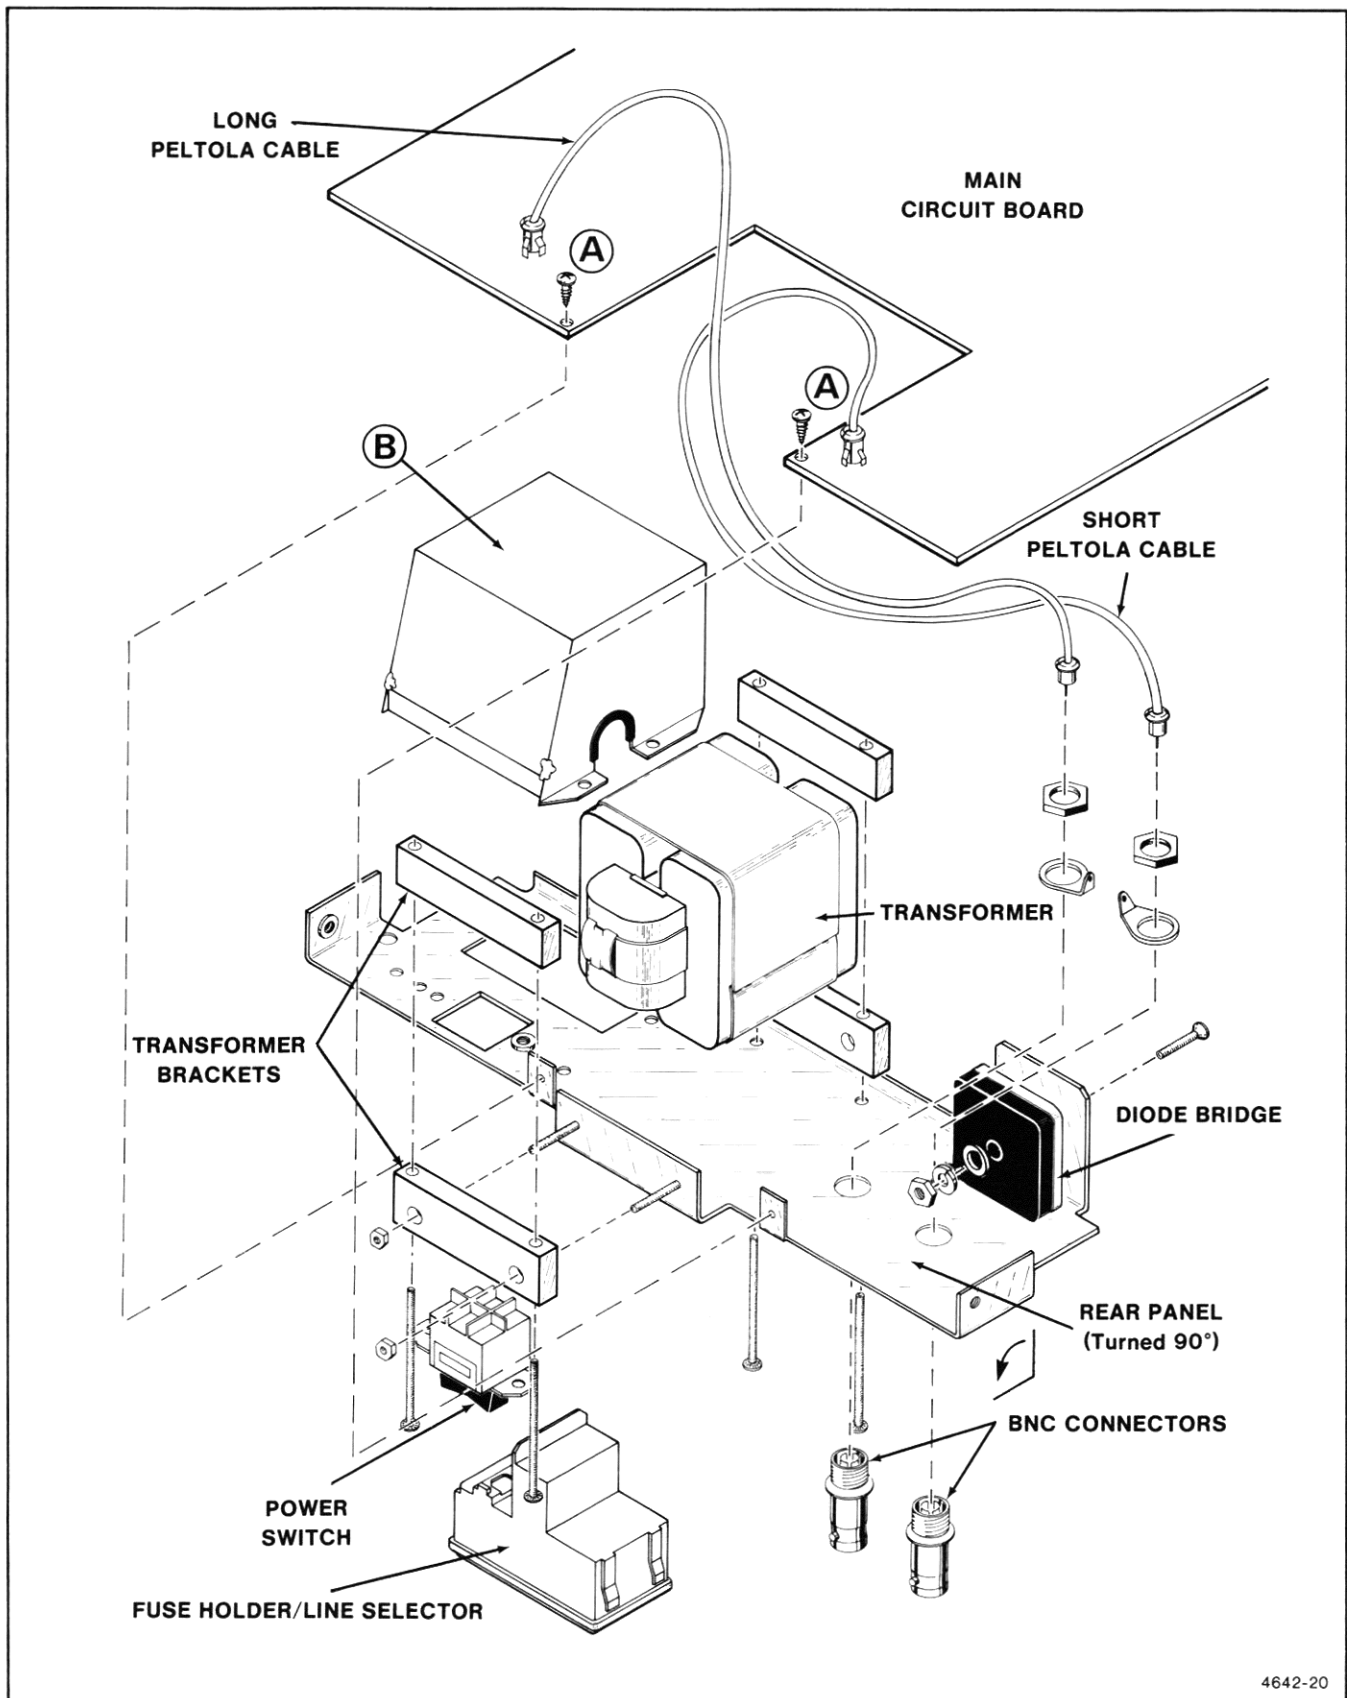

Figure 6-7. Rear subpanel disassembly.
1. Remove the two Posidriv® self-tapping screws (labeled "A" in Figure 6-7).
3. Remove the four Torx® screws and carefully lift the Power Module Shield (labeled "B", Figure 6-7) straight up and clear of the wiring.